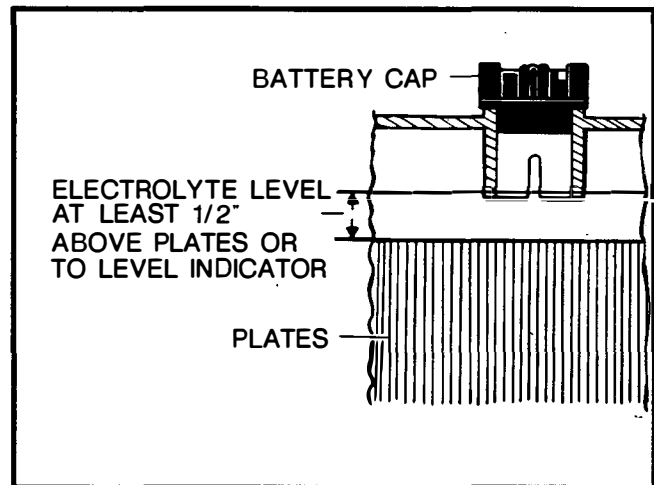

FIG. H-1 BATTERY ELECTROLYTE LEVEL
- When adding water, do not overfill (FIG. H-1). Overfilling will cause a loss of acid from the electrolyte. Use distilled water when adding water to batteries. E-Z-GO strongly recommends that other water sources *NOT* be used since impurities can reduce the useful life of the batteries. If it is suspected that a suitable water